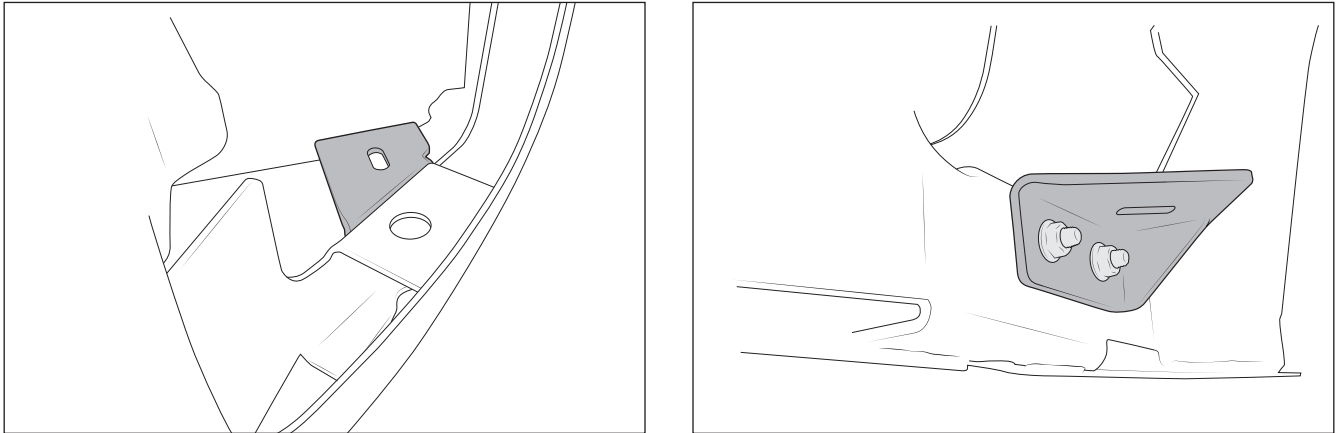

Figure 38
1. Install AEV light brackets to bumper corners with supplied hardware (fig. 38).